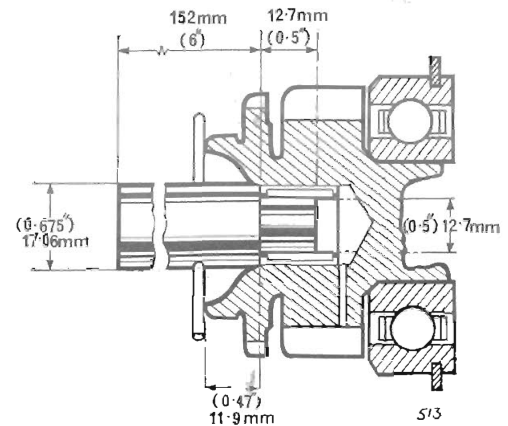

Fig. 43. Details of drift used for driving the needle bearing into the pinion
Removal of the needle roller bearing (105) is not possible and necessitates replacement of the input shaft (104). Use a special drift, detailed on Fig. 43, to ensure that the new bearing is positioned at the correct depth.